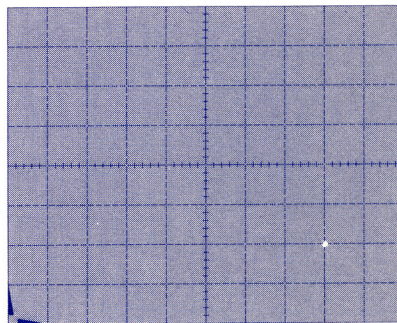

Figure 4-1. Display of gate-to-anode leakage current I_{GAO} .
- 2) Apply power to device — Position LEFT-RIGHT switch on 177 to appropriate side. Increase VARIABLE COLLECTOR % supply until horizontal displacement corresponds to specified voltage. [8.0 divs, or 40 V]. See Figure 4-1. **34 8**